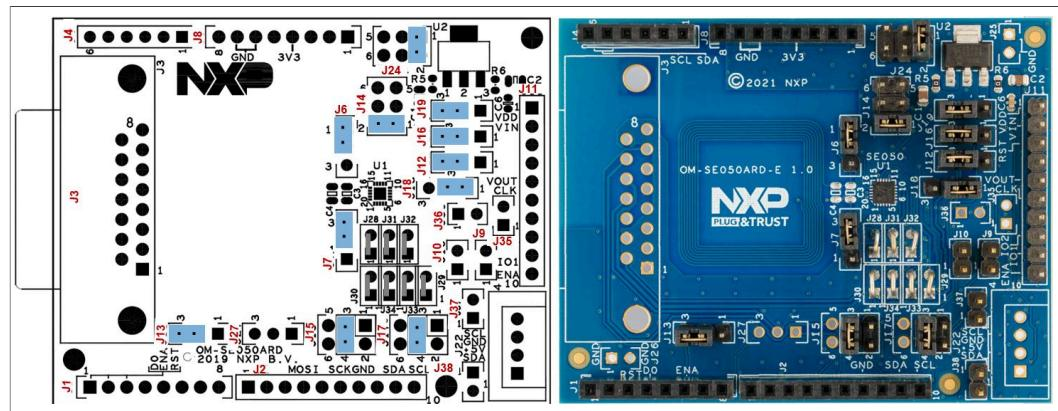

Figure 1. Jumper configuration for FRDM-K64F
The OM-SE05xARD boards have jumpers that allow you to configure the I2C interface of EdgeLock SE05x secure elements via the Arduino header. Configure the jumper settings as shown in Figure 1 to enable this option.
**Note:** Refer to Figure 1 for OM-SE05xARD jumper configuration.